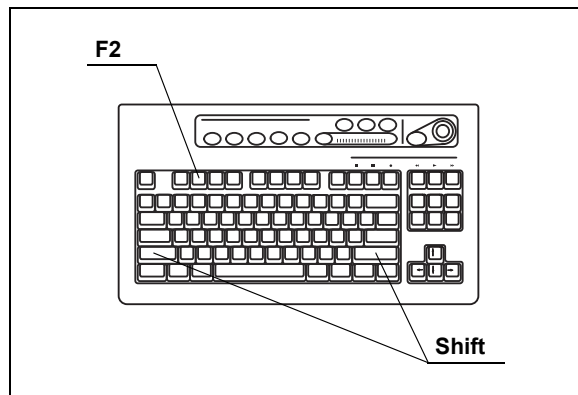
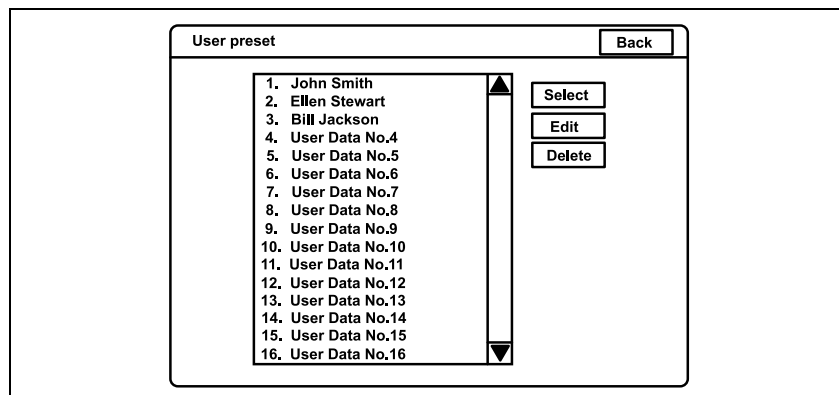

Figure 9.48
Figure 9.49
1. Press the "Shift" and "F2" keys together (see Figure 9.48). The user name list of the user preset menu appears on the monitor (see Figure 9.49).